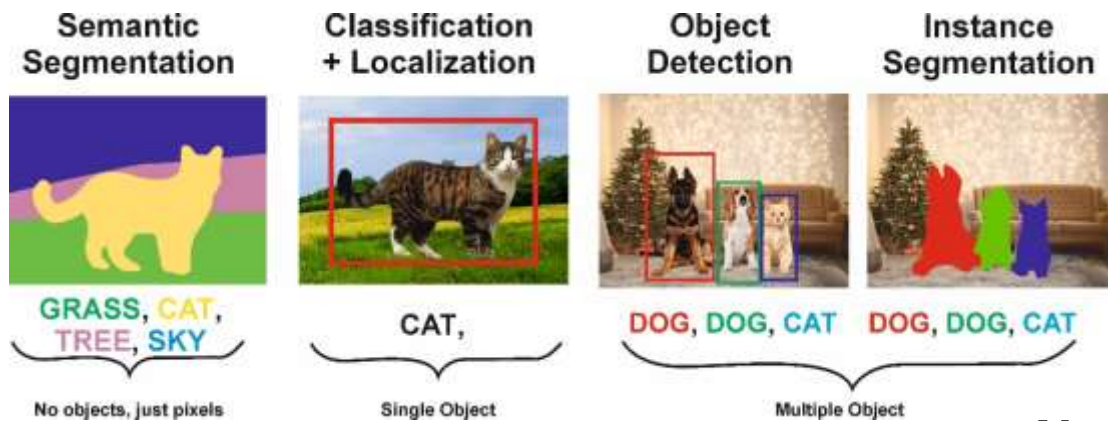

Figure 3.3: Stages of Image processing
- v. **Image Classification:** This task revolves around assigning a label or category to an entire image based on its content. For example, determining whether an image contains a cat or a dog (**Figure 3.3**).